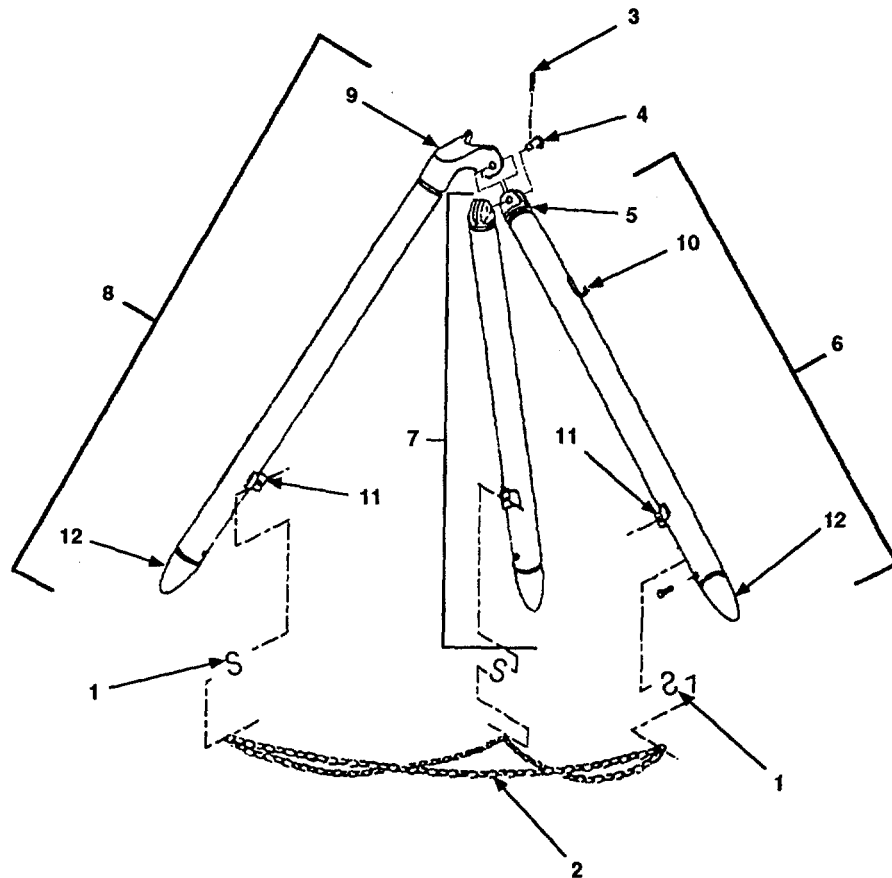

Figure 4-22. Stand Assembly Maintenance.
- a. Remove three S-hooks (Figure 4-22, 1).
- b. Remove three chains (2) from three S-hooks (1).
- c. Remove two cotter pins (3) from two straight pins (4). Discard cotter pins (3).
- d. Remove two straight pins (4) from two devises (5).
- e. Separate two clevis legs (6 and 7) from pivot leg (8).